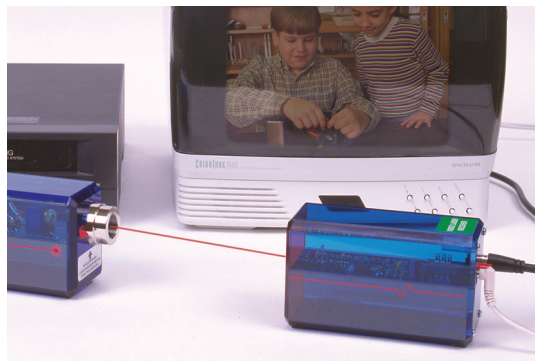

Figure 2. Equipment setup for transmitting video signals by light.
1. Position the VCR, laser, Laser NTSC Video Receiver and television on the table top as shown in **Figure 2**. Disconnect the two video cables joined by female to female RCA adapter from each other.